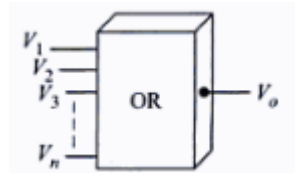

Figure 1.14: OR gate
- It is a digital circuit having 2 or more inputs and a single output (Figure: 1.14& 1.15).